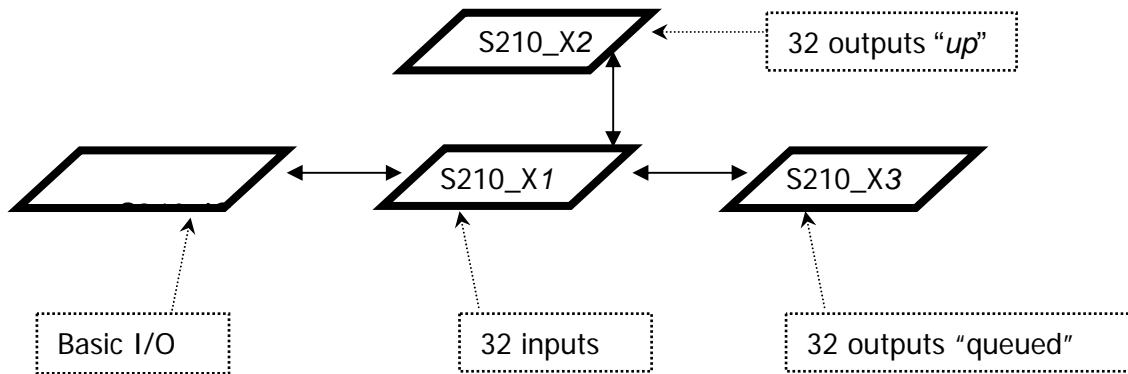

Fig.2
E.g., (see fig.2) the first expansion (e.g., 32 inputs) connected must use the S210\_X1a library. The second expansion (e.g., 32 outputs) will use the S210\_X2b library if it is connected on top of the previous one, while it will use the S210\_X3b library if it is "queued" to the present one.